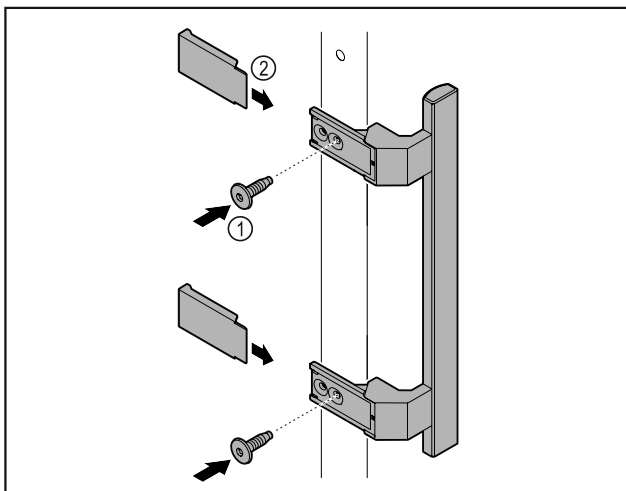

Fig. 6
- Attach handle from accessory kit to the door using the screws supplied Fig. 6 (1).
- Put on cover Fig. 6 (2).